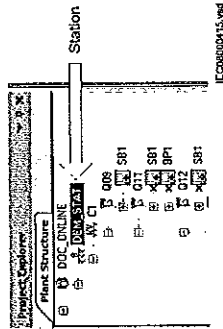

Figure 64: IEC 61850: Export SCD step 1
1. Select the station in the plant structure, see Figure 64.